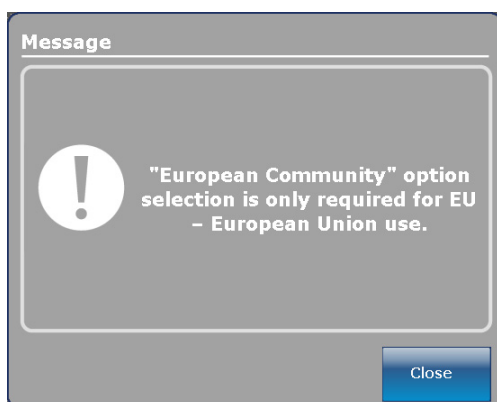

Figure 30a: European Community Message
1. Press and hold the **HOB 30** button and the **BRAKE** button at the same time for 5 seconds then release both buttons. The message screen shown in Figure 30a will be displayed. Press the **Close** button.